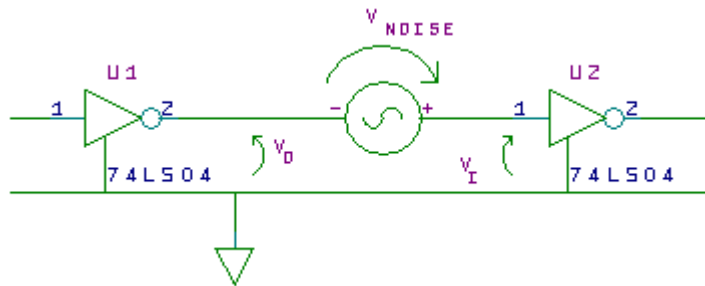

Figure 2-ii: Model of how noise adds to a signal between gates.
**Noise Margins:** All logic systems have significant amounts of noise - unwanted and unintended voltages added to the real signals of the system. The noise is usually induced by electromagnetic coupling between the different signal wires. While it can be minimized, it cannot be eliminated. Much of the appeal of digital systems comes from their relative immunity to such noise. Figure 2-ii shows a circuit model for what is going on as a noise voltage adds to the output of a gate, U1, before the signal reaches the input of gate U2. With well-designed gates, the voltage at the input of U2 which is necessary for U2 to recognize a logic LOW,  $V_{IL}$ , is more than the output of U1 in its LOW state,  $V_{OL}$ . For U2 to function properly we must have
**Figure 2-iii: Scheme for measuring the supply current of a gate/integrated circuit.** The size of the sense resistor has to be chosen so that the voltage drop across the resistor is less than 0.2 volts but great enough to be measured. The multimeter has 10 megohms input resistance so combined with a 10 megohm sense resistor the current is really passing through 5 megohms equivalent.
**Power:** The power used within a chip is the product of the current *through* the chip from its  $V_{DD}$  or  $V_{CC}$  terminal to its GND terminal times the voltage *across* those terminals, that is: Power = (current through)  $\times$  (voltage across). This is the rate at which the power supply is doing work (mostly heating the chip) on the circuit. A flow of current can only be measured **by routing it through something**, typically the ammeter part of a DMM. However, we have found that invariably students damage meters they try to use in this way. Instead for this lab you measure current by putting a resistor “in series” with the supply and the  $V_{CC}$  or  $V_{DD}$  terminal. Be sure to have a bypass capacitor across the integrated circuit itself as shown in Fig. 2-iii. The CMOS chips require a very large resistor, 10 Megohms. However, if you connect a 10 Megohm resistor in series with the  $V_{DD}$  terminal, as shown in Figure 2-iii, and use the DVM on a *voltage* range to measure the potential drop across the resistor, then Ohm's law can be used to find the current. The resistance of the meter itself when used as a voltmeter is 10 Megohms. Since this is not negligible compared to the 10 Megohm sensing resistor, one has to use the effective resistance of the combination of the two in parallel, namely 5 Megohm. The corresponding voltage across the chip is the power supply voltage minus the drop across the series-measuring resistor. **WARNING:** Do not try to measure the voltage across the inverter and infer the current through it by Kirchoff's voltage law. The multimeter current is not negligible compared to the CMOS current.